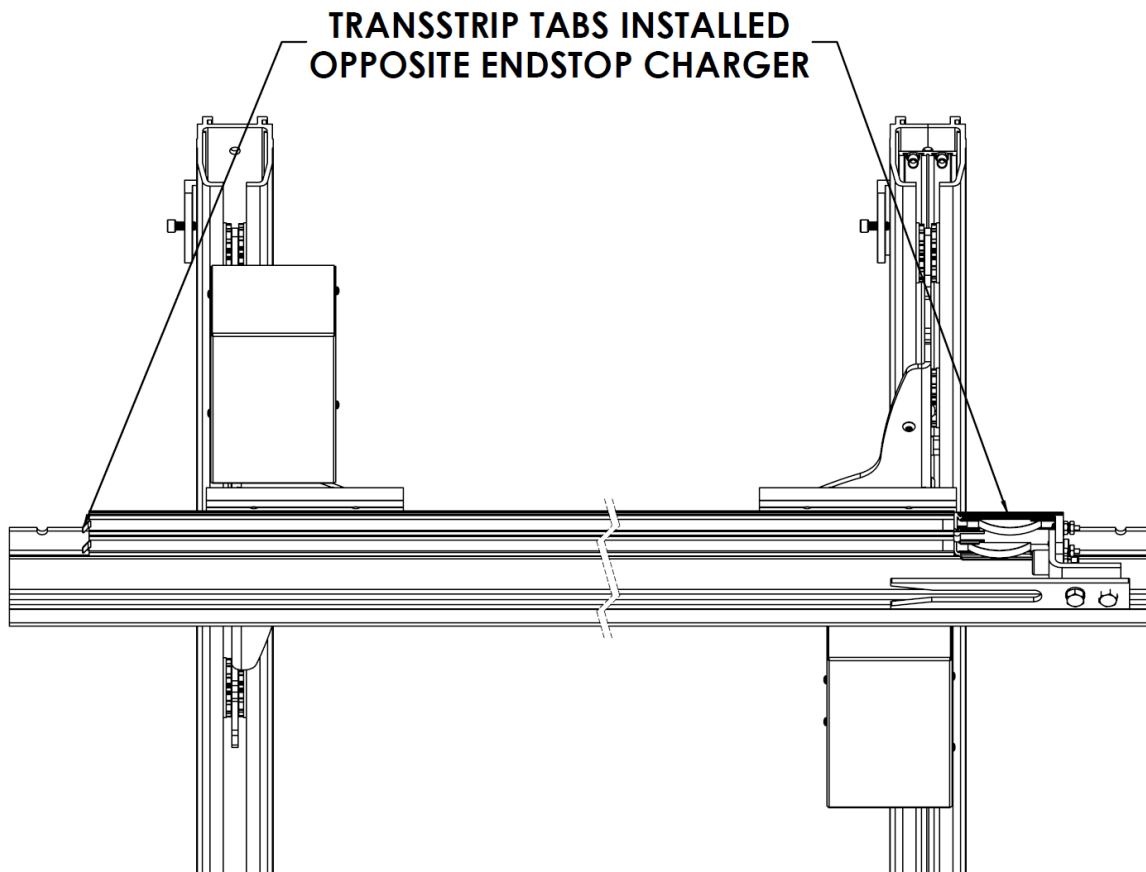

Figure 59: ***TransStrip Male Terminal Tabs***
- Make sure the male terminal tabs on the TransStrip are opposite the end stop charger (Figure 59).